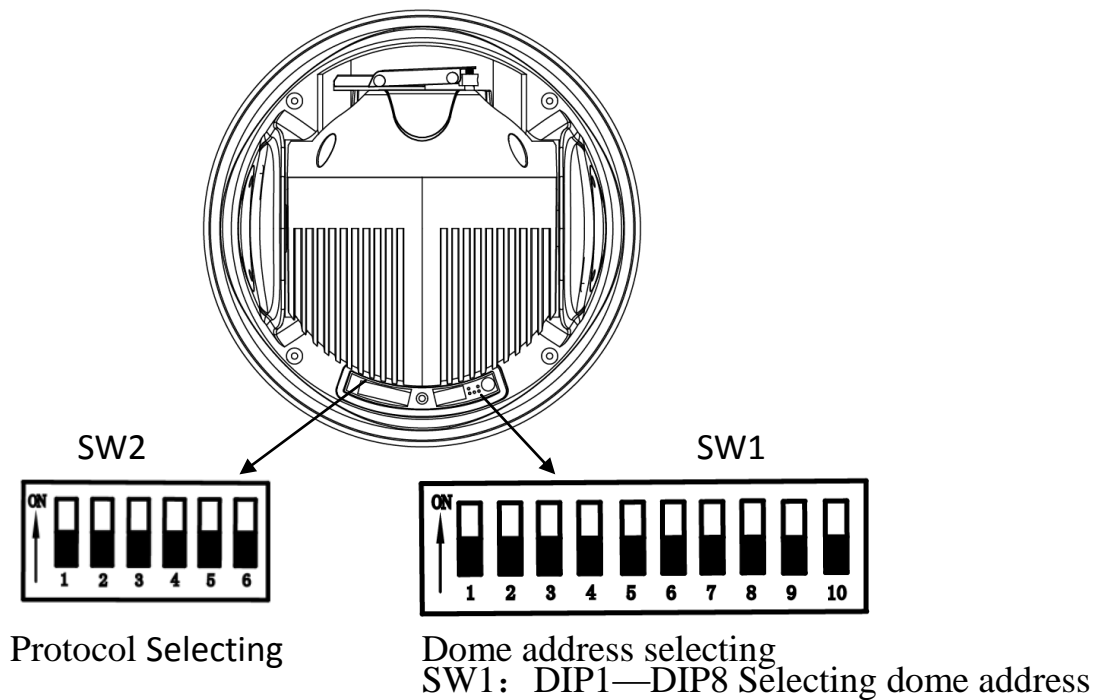

Figure 1
2. Setup of Coding Switch of Dome Camera . As figure 1 shows, SW1 is used to set address of the dome camera from 1 – 255. The coding switches from DIP-8 to DIP-1 are equivalent to a 8-bit binary digital. DIP-8 is MSB while DIP-1 is LSB. The state “ON” of each bit means 1 while “OFF” means 0. Following table shows states of coding switches of some addresses.
3. Setup of the Baud Rate of Communication. As shown in figure 1, SW2 is used to set the protocol of communication and the baud rate used by the dome camera. DIP-6 and DIP-5 of SW2 are used to select the baud rate of communication and 3 different baud rates can be selected in maximum. If the controller adopts non-standard baud